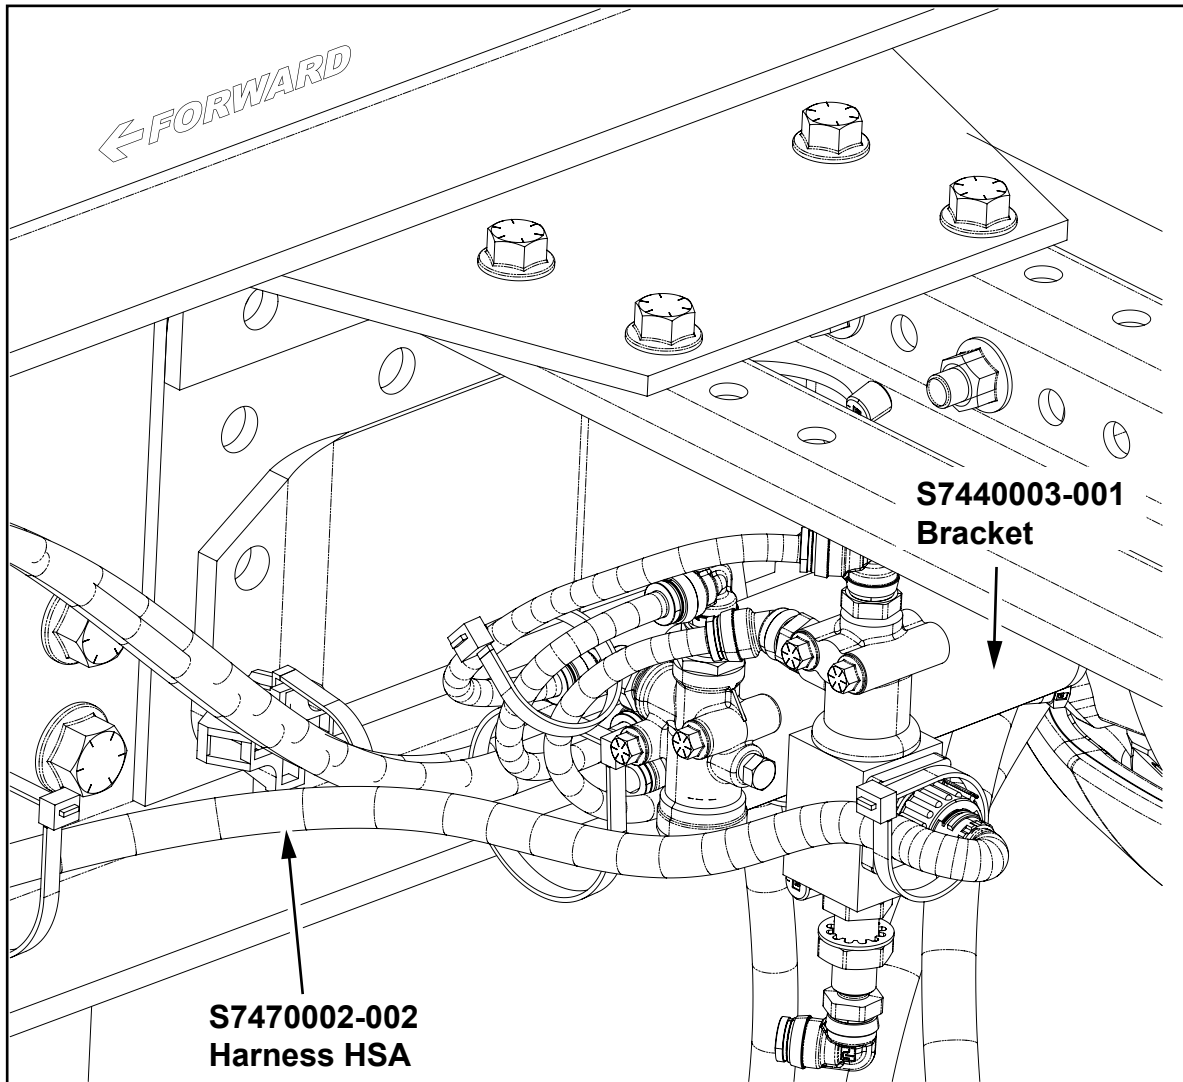

Figure 3
13. Install the S7470002-002 Harness HSA into the right frame rail following proper routing and clipping techniques and connect to the HSA Solenoid (*see Figure 3*).